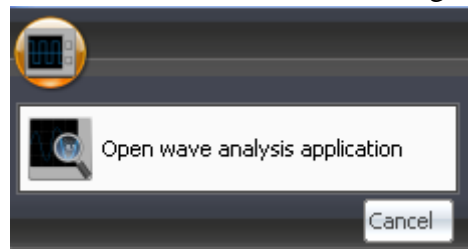

Fig.4-3
3. The software can also be started by clicking “Start the waveform analysis program” in the menu on upper left of the software interface. See Fig.4-3.